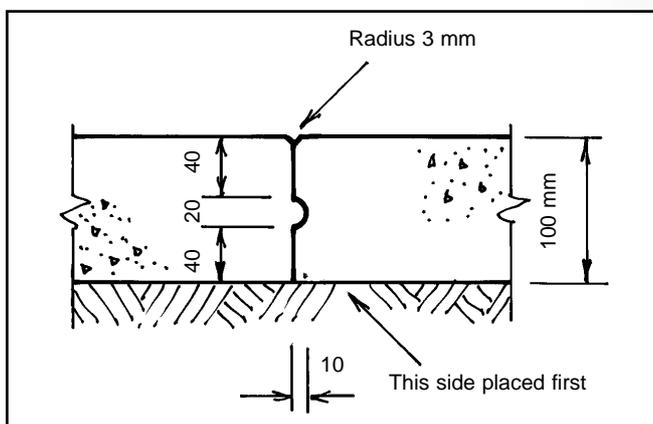

Figure 5: Keyed joint
- **Keyed Joint** (see Figure 5) This is used when half of the pitch is placed on one day and the other half on a subsequent day. It is formed by nailing a 20 mm halfround to the timber form at middepth of the concrete. After the form is removed the face of the concrete should be painted with limewash prior to the adjacent concrete being placed.